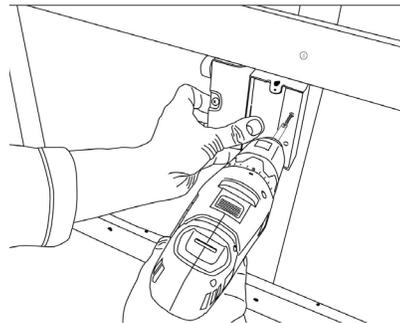

Figure 2
2. Use guide provided to position box on stud. Use a #8 x 1-1/4 in. or larger wood screw to attach the box to the stud using the mounting holes located at back of box. (Figure 2).